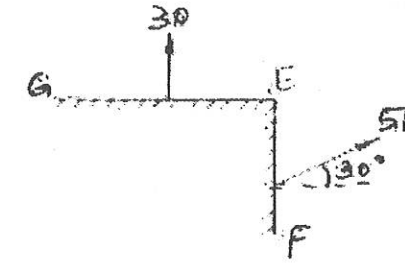

Figure 4.
14. (a) At a point in a material under stress shown in Figure 4, the intensity of the resultant stress on a certain plane is 50MN/m² (tensile) and is inclined at 30° to the normal of that plane. The stress on a plane at right angles to this has a normal tensile component of intensity of 30MN/m². Find: